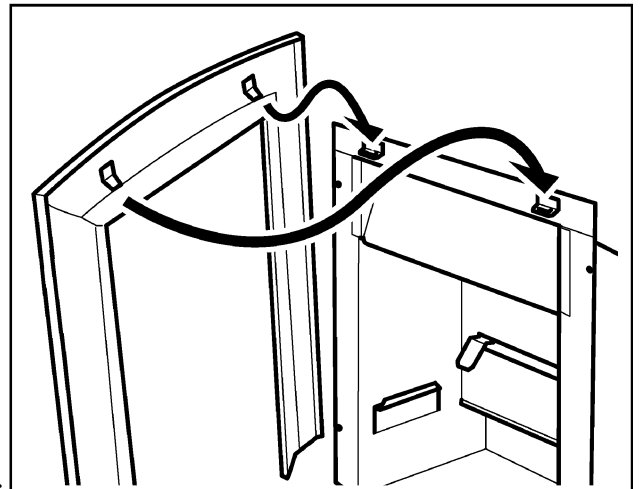

Figure 24. Fascia location (Fascia may differ from that shown)
2. Carefully lift the fascia. Place the fascia against the fireplace front surface so that the two retaining plates at the back of the fascia are directly above the two upper retaining brackets at the top of the hotbox. Lower the fascia unit making sure that the retaining plates locate fully into the brackets on the hotbox (See figure 24). If the inlet pipe runs along the front of the fireplace, the bottom of the fascia will have to be swung forward to clear the pipe while lowering the fascia.
1. Carefully lift the fascia. Place the fascia against the fireplace front surface so that the two retaining plates at the back of the fascia are directly above the two upper retaining brackets at the top of the hotbox. Lower the fascia unit making sure that the retaining plates locate fully into the brackets on the hotbox (See figure 24). If the inlet pipe runs along the front of the fireplace, the bottom of the fascia will have to be swung forward to clear the pipe while lowering the fascia.